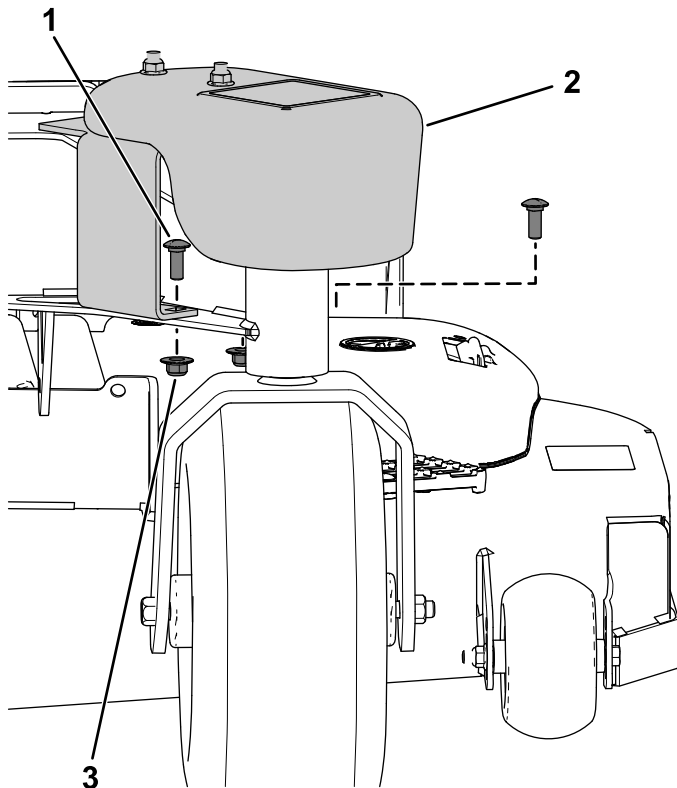

Figure 6
1. Secure the weight to the caster arm using 2 carriage bolts (3/8 x 1 inch) and 2 flange nuts (3/8 inch) as shown in Figure 6.